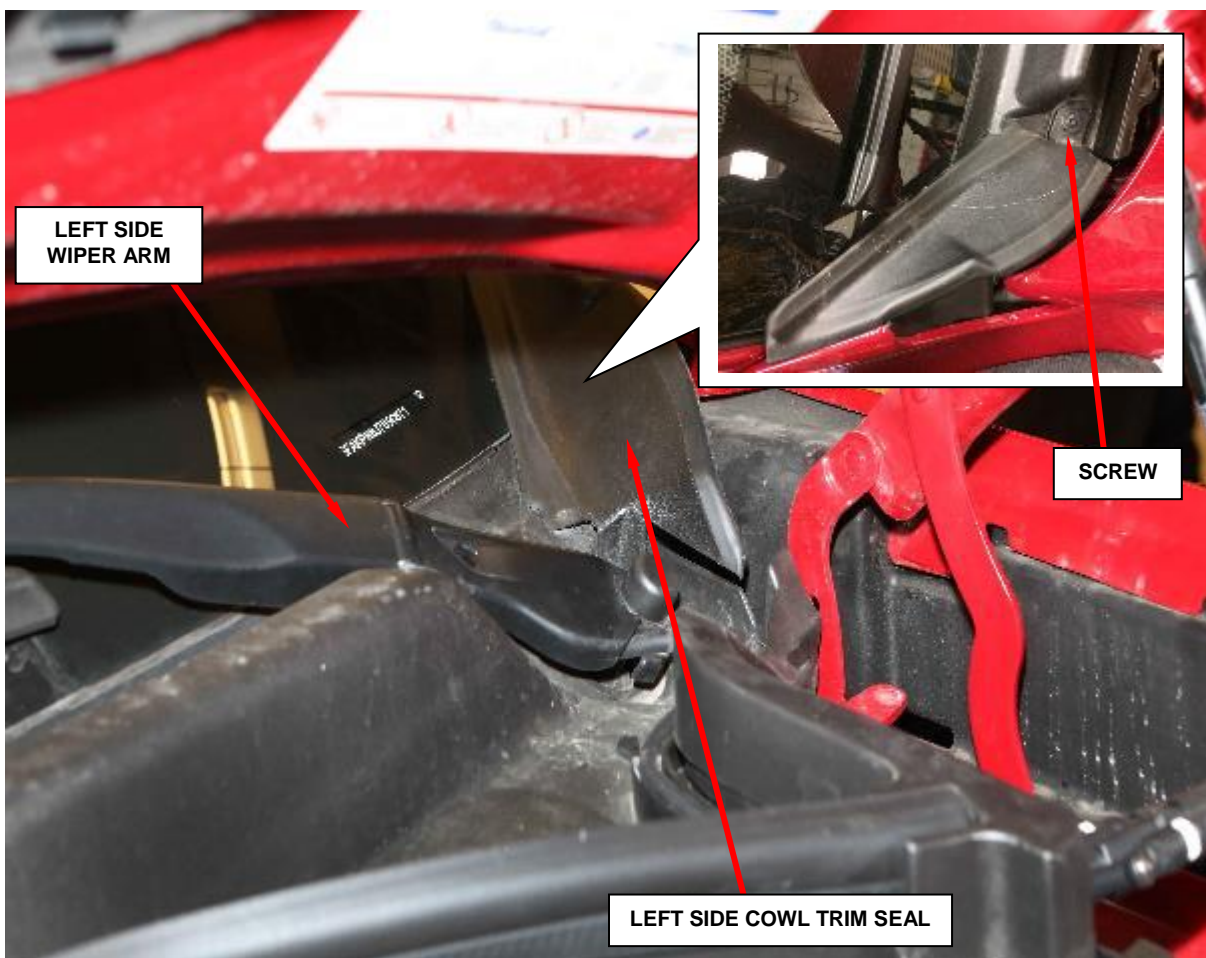

Figure 4 – Left Side Cowl Trim Seal Shown
- a. Remove and save the screws and remove the cowl trim seals by releasing its retainer from the seat, both right and left sides (Figure 4).